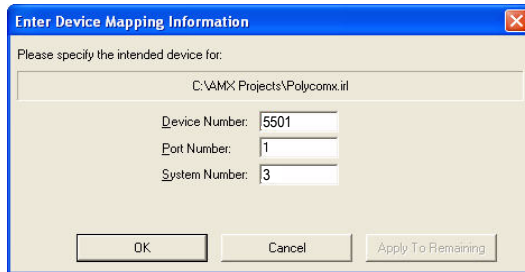

FIG. 65 Enter Device Mapping Information dialog (NetLinx Studio)
- a. If the selected file has not been mapped to a device, the Enter Device Mapping Information dialog is displayed (FIG. 65).